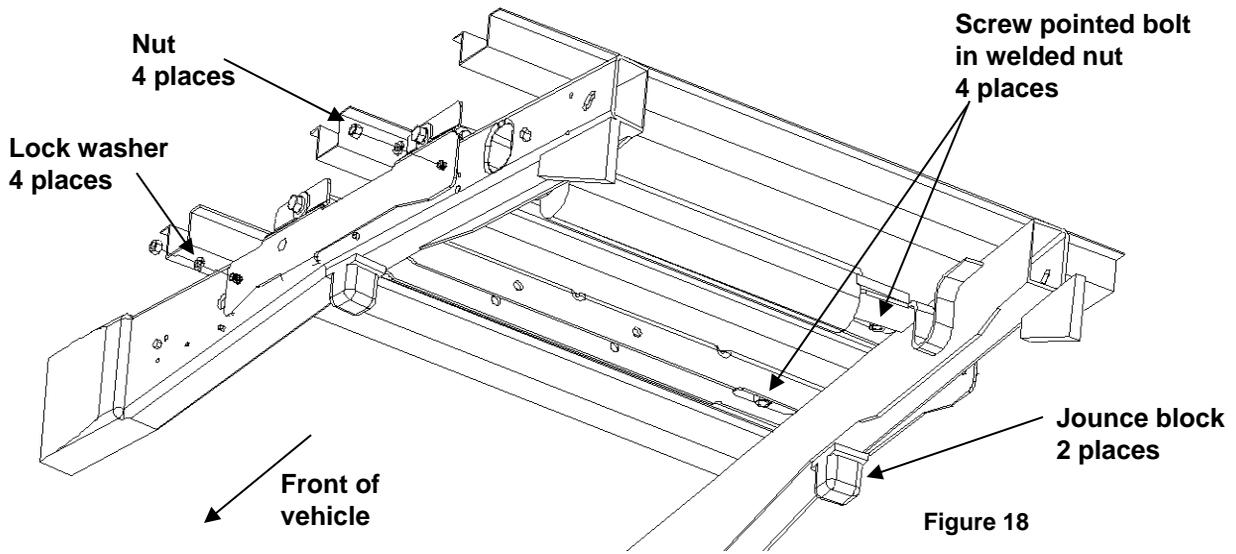
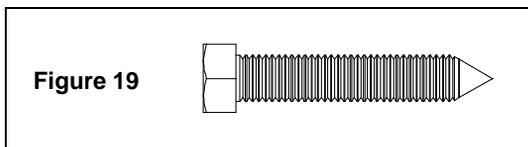
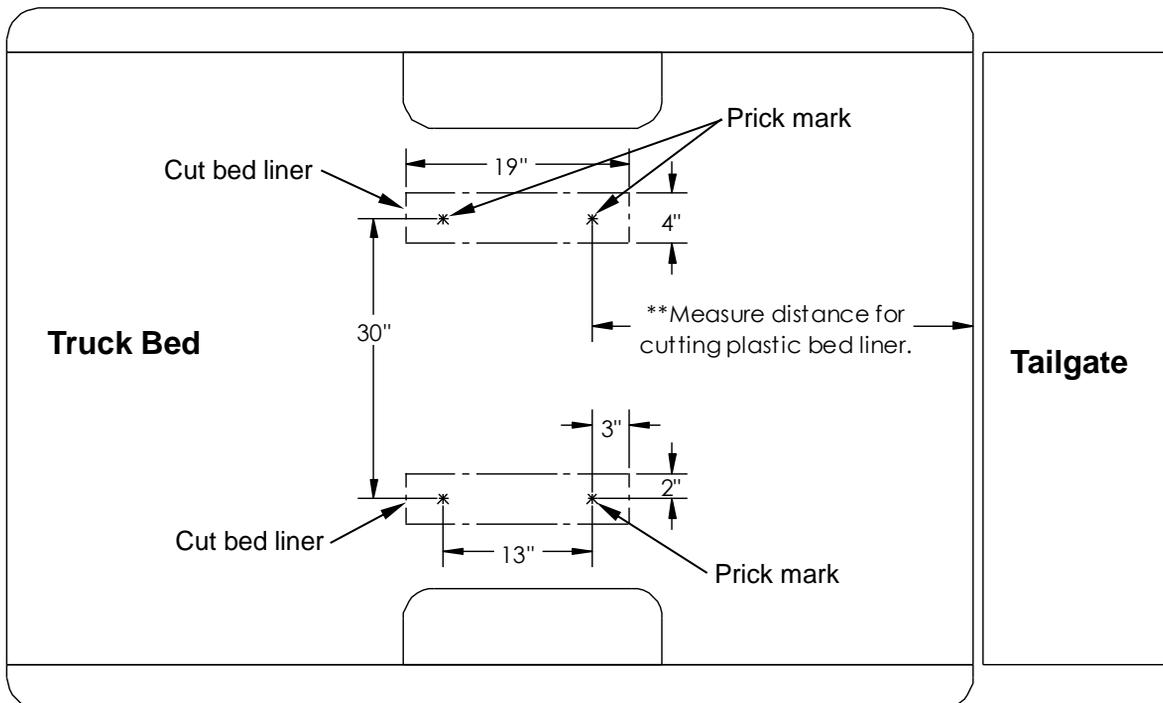

Figure 18
Figure 19
Figure 20
11. Loosely attach frame bracket to frame rails using 5/8" nuts and lock washers, tighten until hand tight (Figure 18). Re-attach jounce block to the chassis frame rail.
12. Using pointed bolt (**Figure 19**), screw pointed bolt in to the nut that is welded to the rail assembly until a prick mark is clearly visible on the truck bed (**Figure 18**). If access to the fourth welded nut is not possible due to vehicle obstructions, the fourth prick mark should be marked on the bed based upon measuring from the other prick marks (**Figure 20**). If you have a plastic bed liner cut 19" X 4" slots in plastic drop-in bed liner measured from prick marks in truck bed. If the *Elite Series* slider fifth wheel assembly is used, then see fifth wheel assembly instructions for slot cut dimensions.